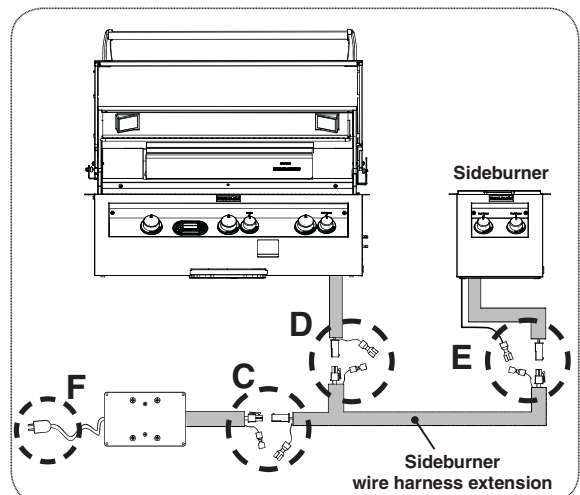

Fig. 16-3 Connect sideburner to grill setup
- Locate the end of the sideburner wire extension that has two mox and ground connections. Connect the extension (plug) mox connection to the power supply (receptacle) mox connection and ground wires (See Fig. 16-3, **C**).
- Connect the extension (receptacle) mox to the grill (plug) mox connection and ground wires (See Fig. 16-3, **D**).
- Connect the opposite end of the extension to the sideburner as shown in Fig. 16-3, **E** (mox and ground wire connections).
- Reconnect the power cord (see Fig. 16-3, **F**).